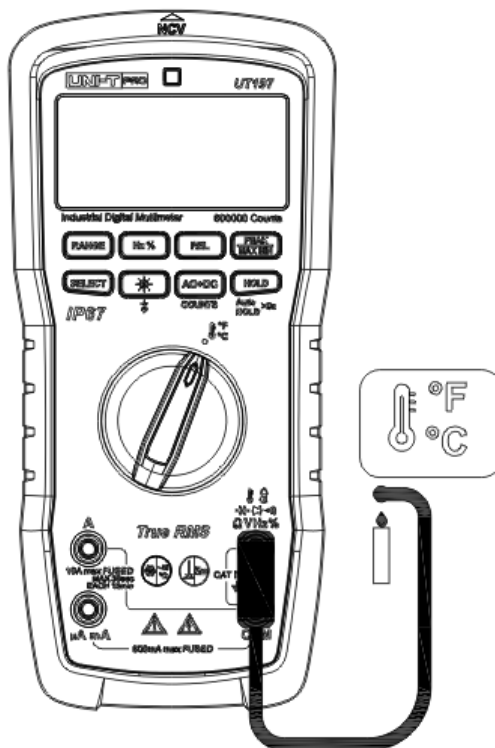

Figure 17
14. Temperature measurement (Figure 17)